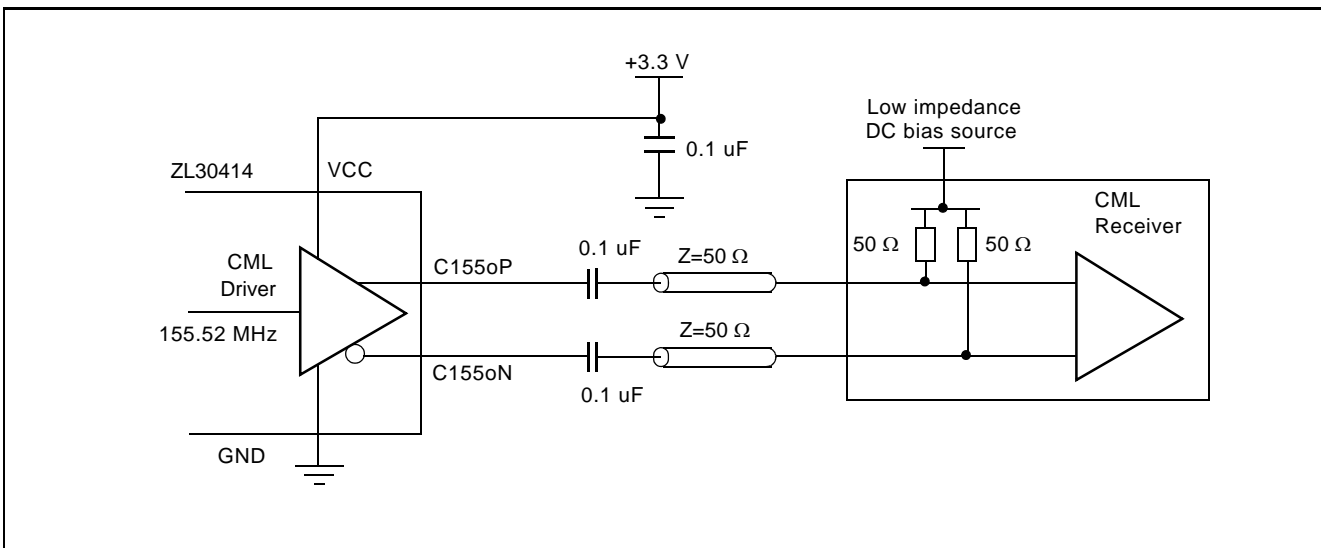

Figure 9 - CML to CML Interface
- Note 3: CML outputs terminated with $Z_T = 50 \Omega$ resistors connected to low impedance DC bias voltage source (see Figure 9)